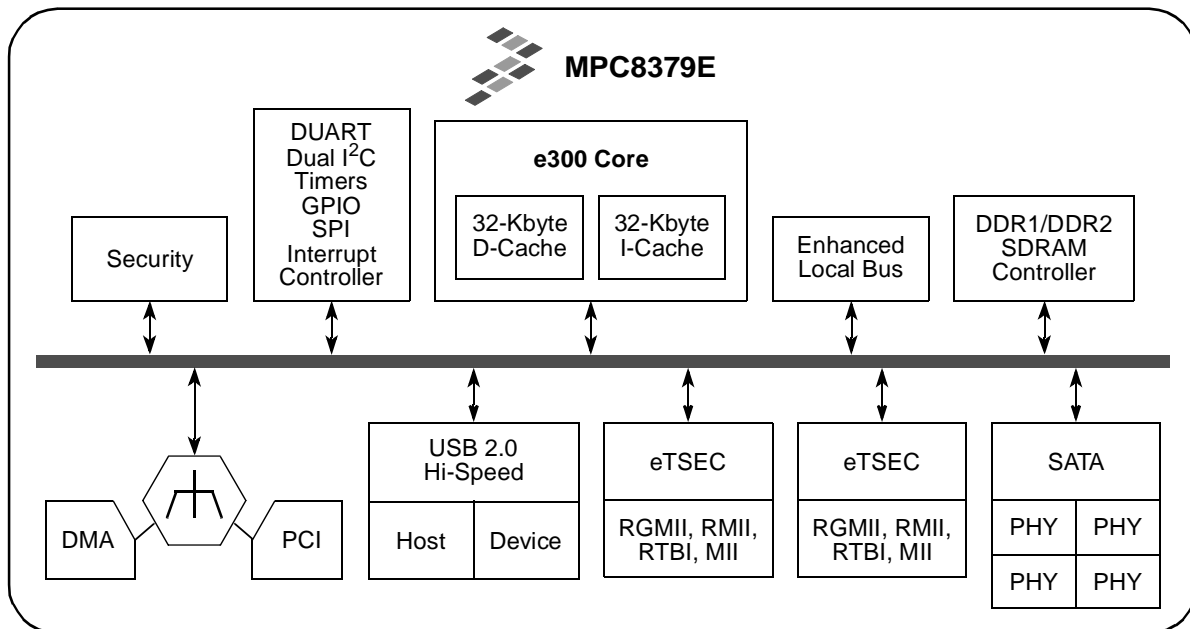

Figure 1. MPC8379E Block Diagram and Features
2.0 dual-role controller, a programmable interrupt controller, dual I2C controllers, a 4-channel DMA controller, an enhanced secured digital host controller, and a general-purpose I/O port. The block diagram of the MPC8379E is shown in Figure 1.